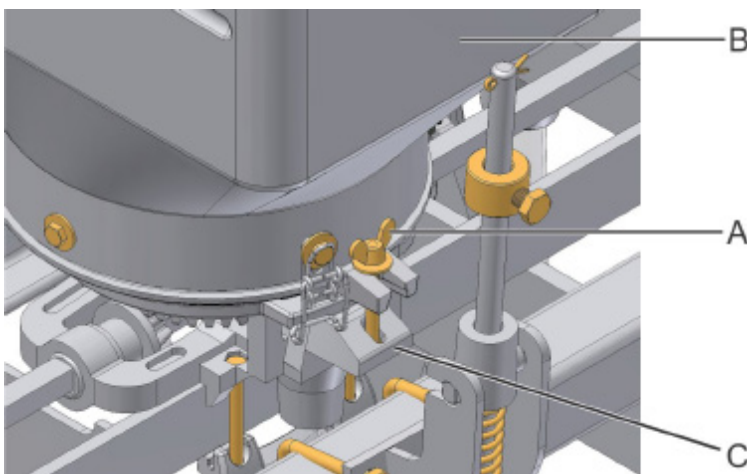
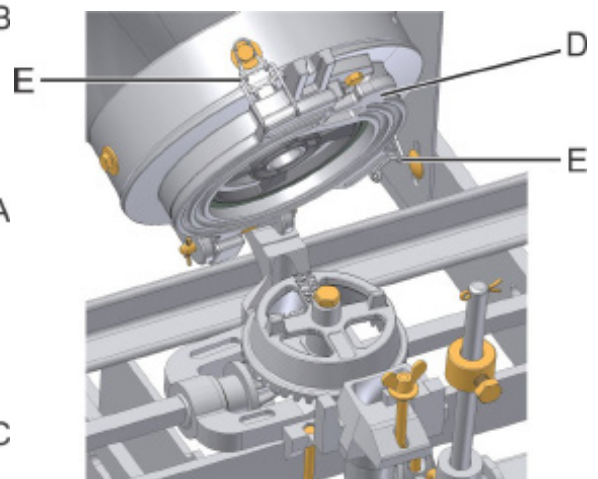

fig. 12
fig. 13
To check or replace the disks, loosen the wing nut (A) (fig. 12), move the bolt of the support base (C), rotate and suspend the tank (B), turn opposite the tank and release the plate (D) (fig. 13) through the fasteners (E). After assembling the correct disk, rotate it by hand to ensure that it is rotating freely.